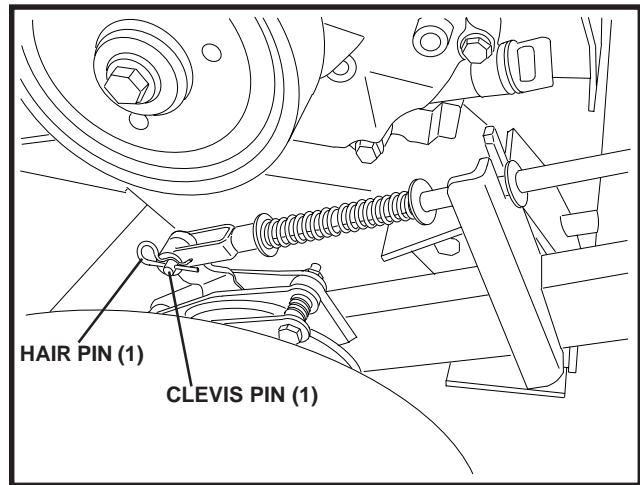

FIGURE 4
- Attach the yoke to the brake's top mounting hole using the clevis pin and cotter pin. Make sure the rod is positioned in the bracket as shown in Figure 4.